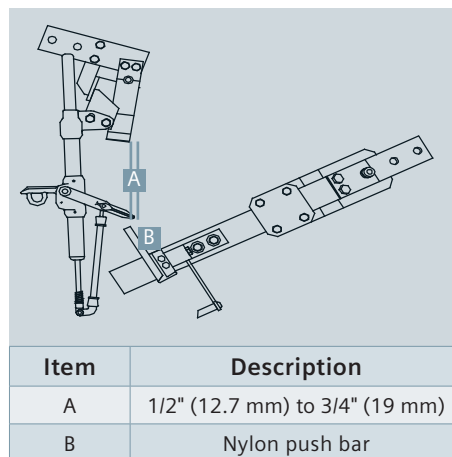

Figure 15: Lever pick up
a) As the blade rotates closed, the push bar must pick up the lever at least 1/2" (12.7 mm) from the end of the lever (refer to Figure 15: Lever pick up).